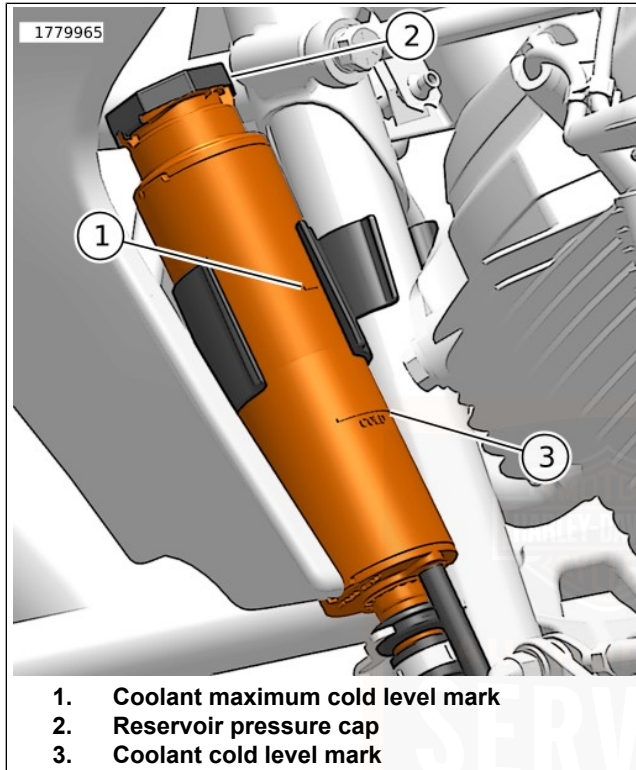

Figure 97. Coolant Level
1. See Figure 97. Check that coolant level in reservoir is between the coolant maximum level mark (1) and the coolant cold level mark (3).
3. See Figure 97. Remove reservoir pressure cap (2).
5. Add GENUINE HARLEY-DAVIDSON EXTENDED LIFE ANTIFREEZE AND COOLANT until fluid level reaches, or is slightly above the coolant cold level mark (3).